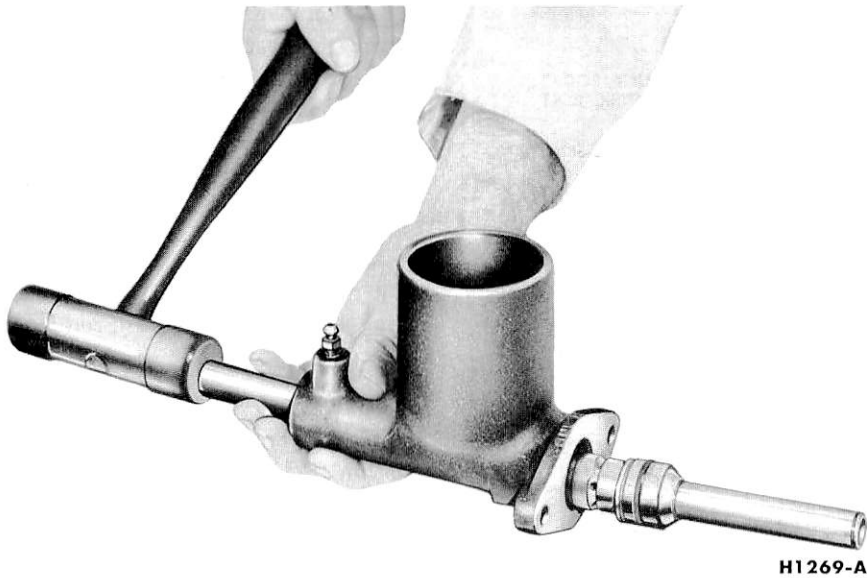

FIG. 22—Master Cylinder Push Rod, Piston, and Bushing Removal
4. Remove the bushing snap ring from the rear end of the cylinder, insert a drift through the front end of the cylinder bore against the piston, and knock out the master cylinder push rod, piston, and bushing as an assembly (Fig. 22).